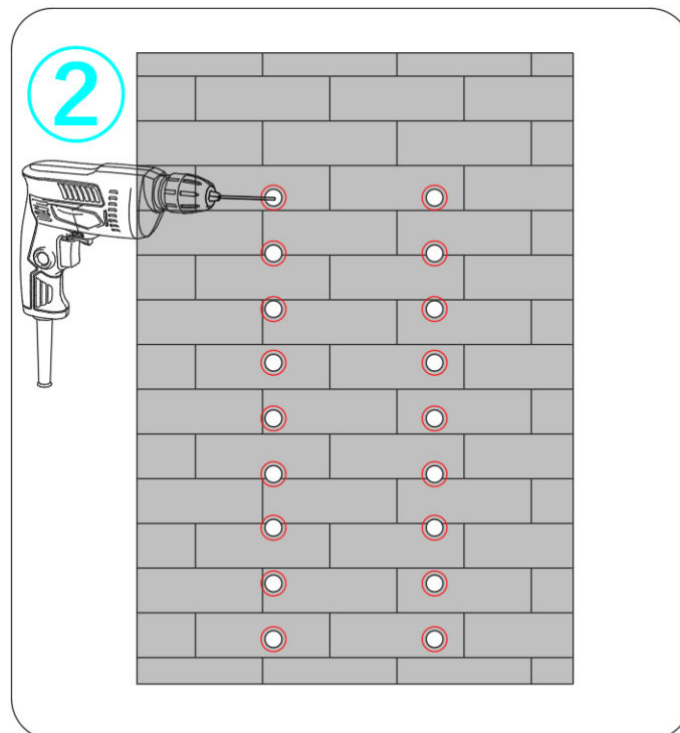

FIGURE 3.9: STEP2
- Step 2: Drill holes (13mm diameter, 65mm depth) into the marked wall with electric drill. As shown in Figure 3.9.